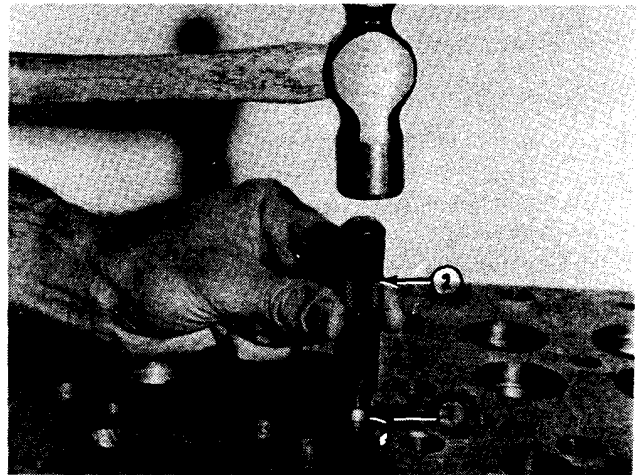

Fig. 2-13, (N10264). Driving bushing into hole
1. Coat sleeve, Part No. 191078, (1, Fig. 2-13) with sealant, align sleeve in top of water passage hole and drive into position using bushing driver (2) and hammer.